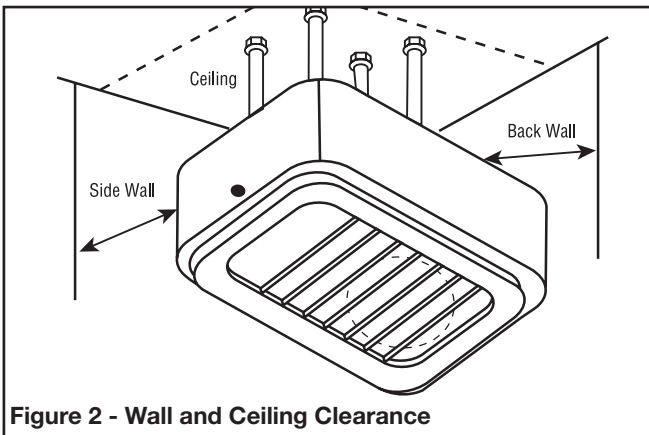

Figure 2 - Wall and Ceiling Clearance
- B. Securely attach the four (4) mounting rods to the ceiling. (Refer to Table D for wall and ceiling clearances, and Figure 2 for mounting spacing specifications.)